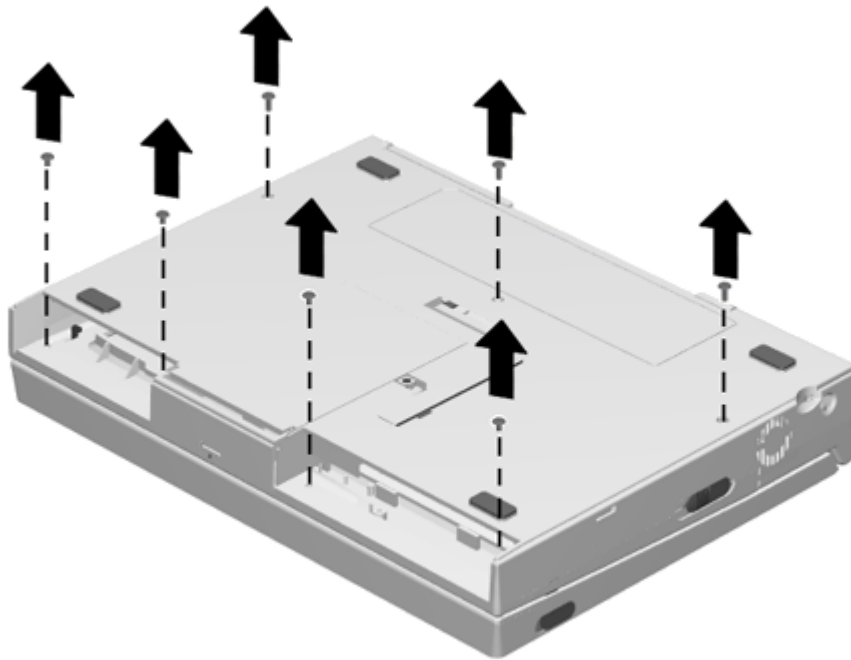

Figure 5-37. Removing the Keyboard Screws
2. Remove the keyboard screws (Figure 5-37).